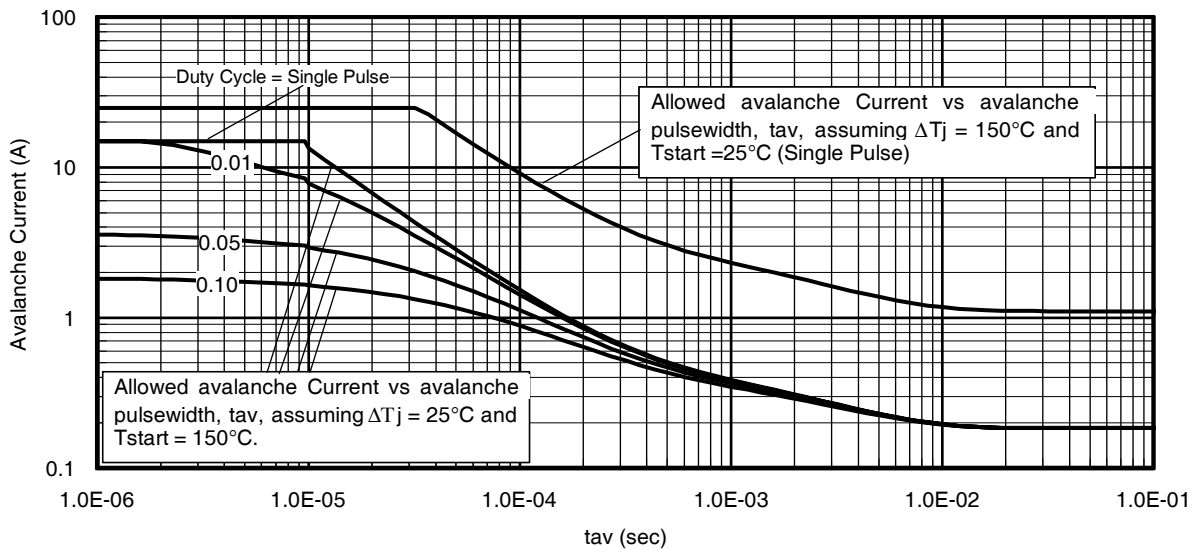

Fig 14. Typical Avalanche Current vs. Pulsewidth
Notes on Repetitive Avalanche Curves, Figures 14, 15:
- ΔT = Allowable rise in junction temperature, not to exceed T_{jmax} (assumed as 25°C in Figure 14, 15).